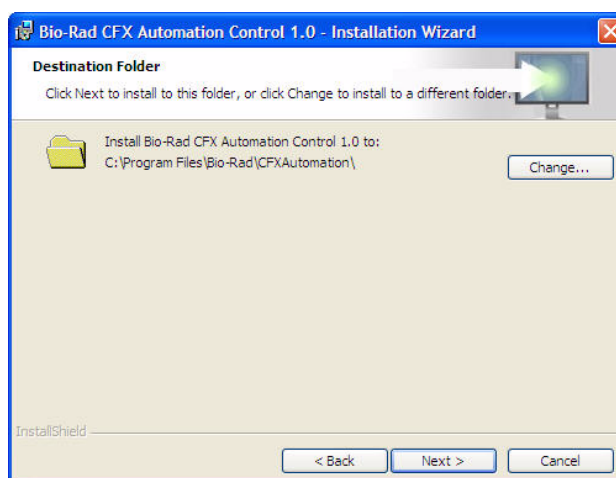

Figure 13. Installation folder designation.
- Click **Next** to install the software to the specified, default destination folder (Figure 13).